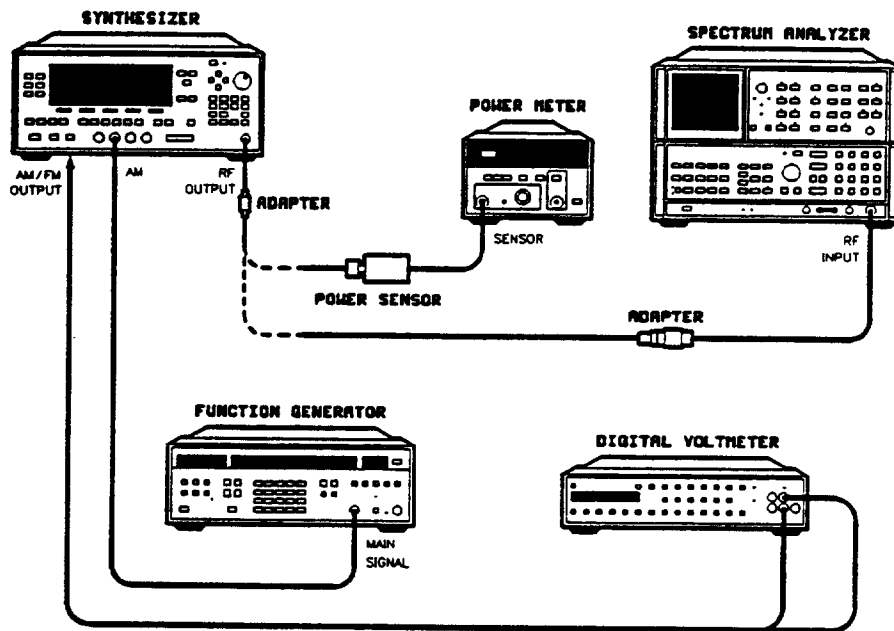

Figure 2-27. AM Dynamic Range Test Setup
1. Preset the instruments shown in Figure 2-27 and let them warm up for at least one hour.
- Connect the equipment as shown in Figure 2-27 with the power sensor connected to the synthesizer's RF OUTPUT.
20. Disconnect the power sensor from the synthesizer and connect the spectrum analyzer as shown in Figure 2-27.